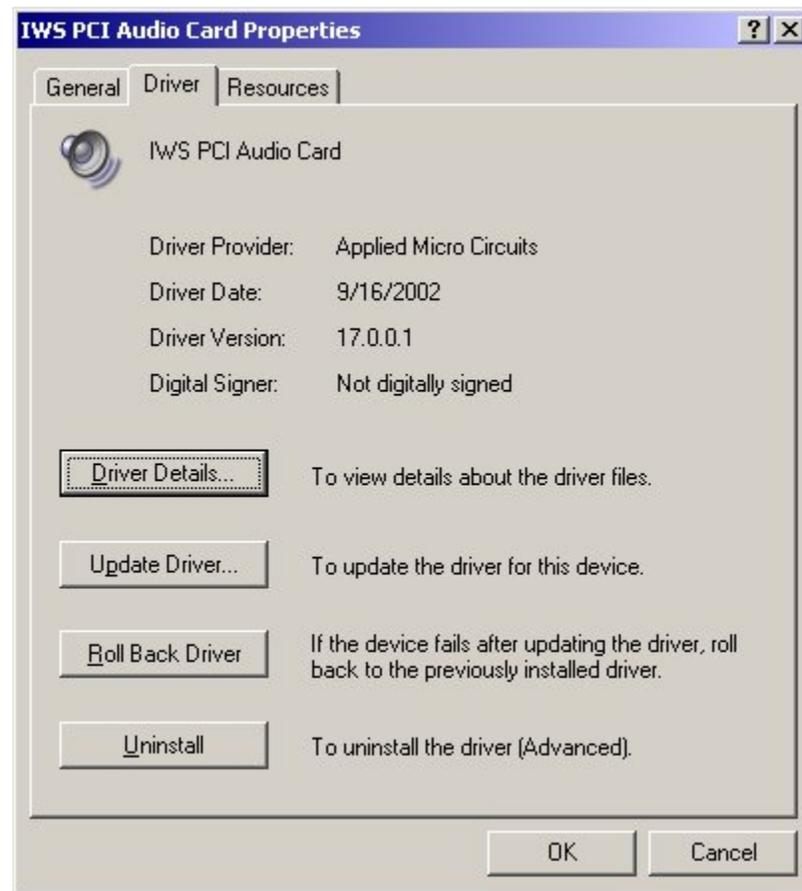

FIGURE 228. Driver tab of the IWS PCI Audio Card Properties
10. The window as in Figure 228 should appear.